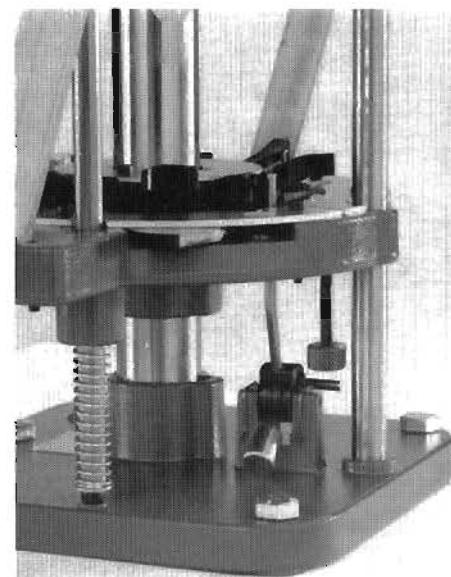

Fig. 13
**Figure 13** - When properly adjusted, the Index Drive Bolt pushes down upon the short index arm so that when the handle is pulled down the long index arm completely cams over and advances the shellplate — stopping just clear of the bottom of the shellplate.